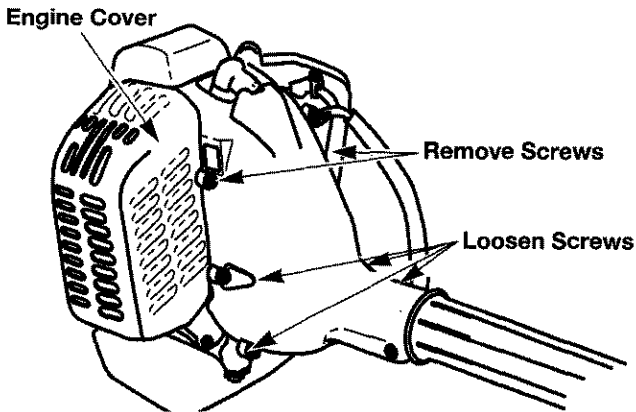

Fig. 31
1. Loosen the four (4) screws shown in figure 31.
2. Remove the three (3) screws that secure the engine cover (Figs. 31 and 32).
5. Remove the engine cover (Fig. 31).